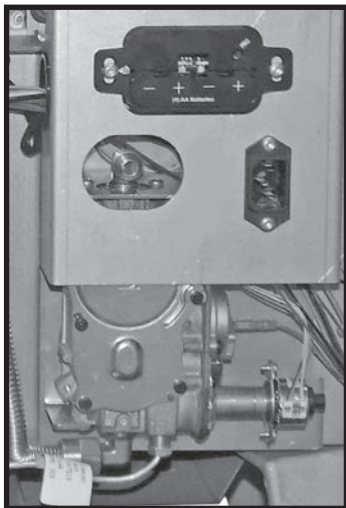

Fig. 72: Valve location
1. Remove back panel and locate the valve as seen in Fig. 72.